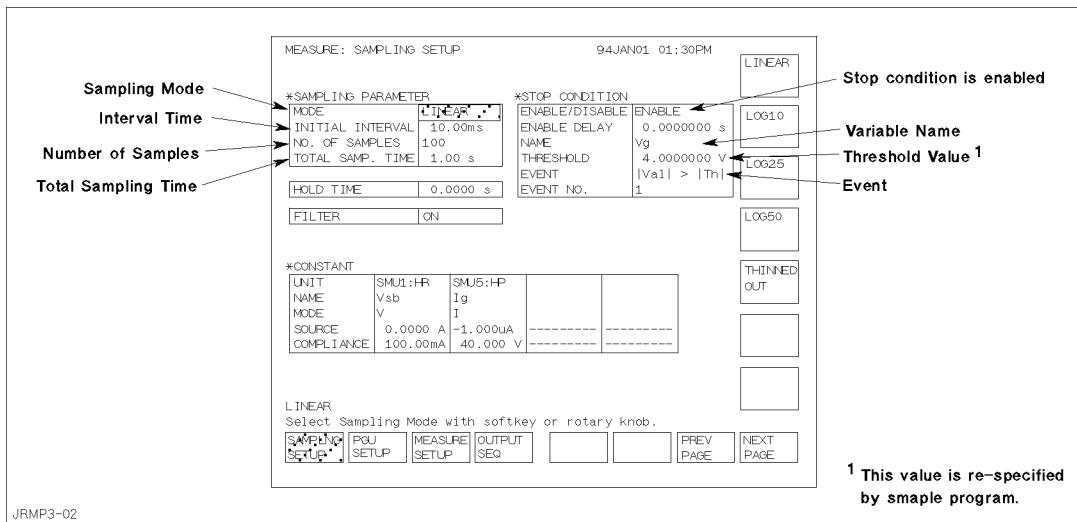

Figure 3-2. MEASURE: SAMPLING SETUP Page for Initial Test
■ On MEASURE: SAMPLING SETUP page (see Figure 3-2)